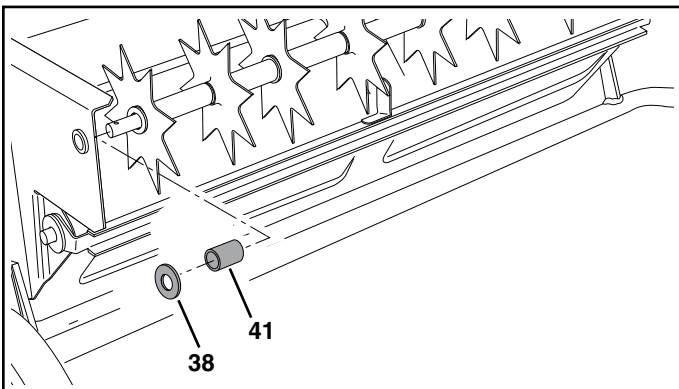

FIGURE 22
- Place a short spacer tube (41) and then a large washer (38) onto the shaft. Fit the short spacer tube and washer onto the end of the flanged bearing in the end plate. Push the shaft on through the flanged bearing in the end plate. See figure 22.